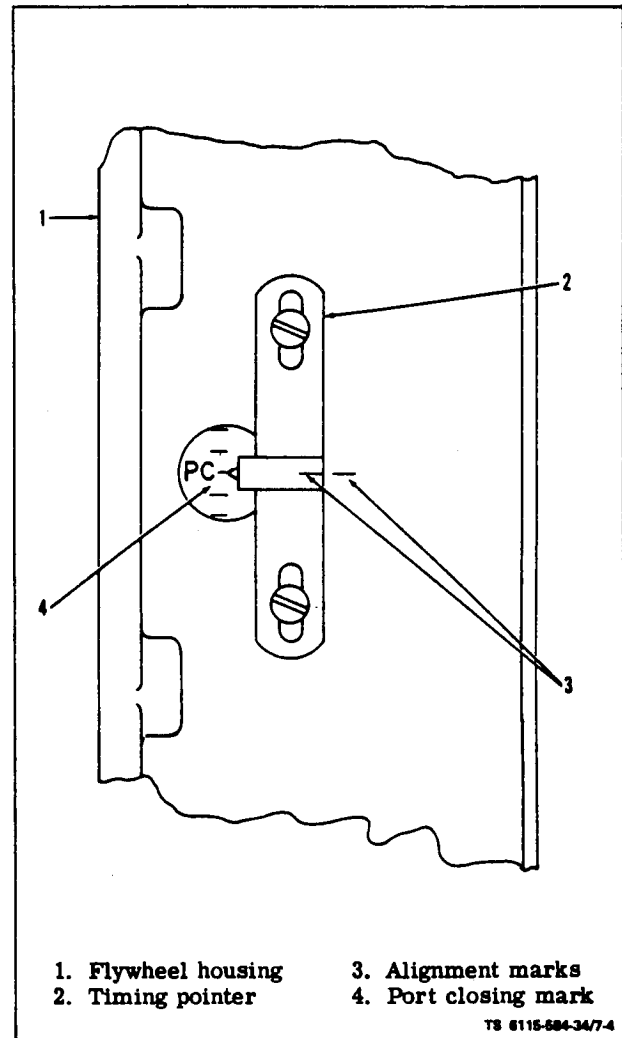

Figure 7-4. Timing Port and Port Closing Mark
Zero the dial indicator. Rotate flywheel in opposite direction (clockwise) to a point where the dial indicator will indicate approximately 0.200 inch. Rotate flywheel counterclockwise slowly until dial indicator shows 0.128 inch before Top Dead Center. Care must be taken to insure that the valve is following the piston, and that reading is accurate. This procedure must be followed to insure that all slack is taken out of the piston and connecting rod fits. At 0.128 inch before Top Dead Center position, check timing pointer in timing port on side of flywheel housing (5, figure 7-3). The timing pointer (10) should be in exact alignment with P.C. mark on flywheel. If pointer is not in alignment, move pointer, and remark generator adapter as shown in figure 7-4. Destroy old alignment mark.